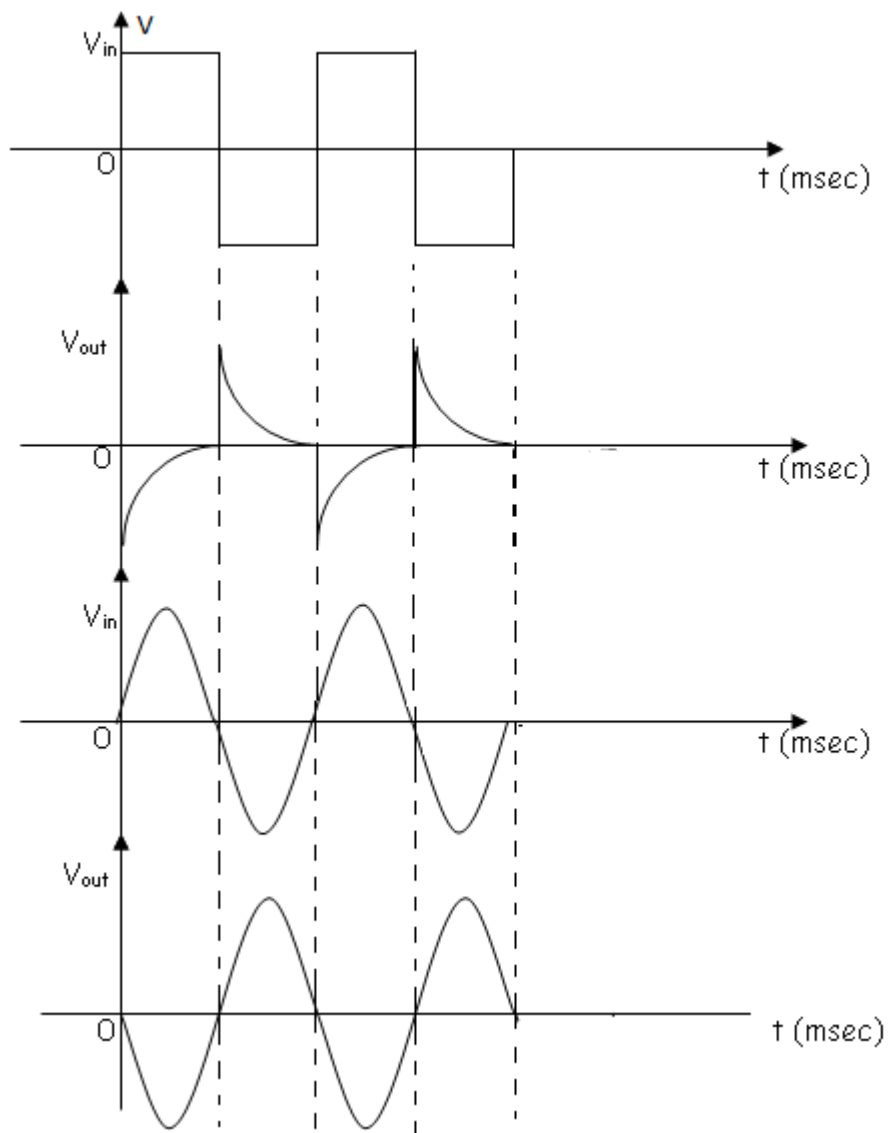

Figure 2.b
5. Observe and record the output frequency of waveforms (Ideal output waveforms are as shown in fig 2.b)
7. Apply the square wave, and repeat the above steps and observe & record the waveform. The frequency response graph of basic differentiator circuit is also shown in the figure 2.b.